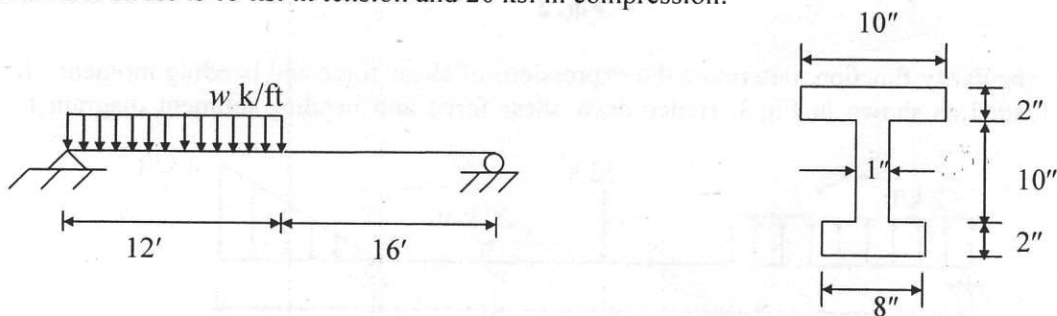

Fig.6
6. A beam is loaded as shown in the Fig.6. Determine the maximum allowable value of "w" if allowable stress is 15 ksi in tension and 20 ksi in compression.